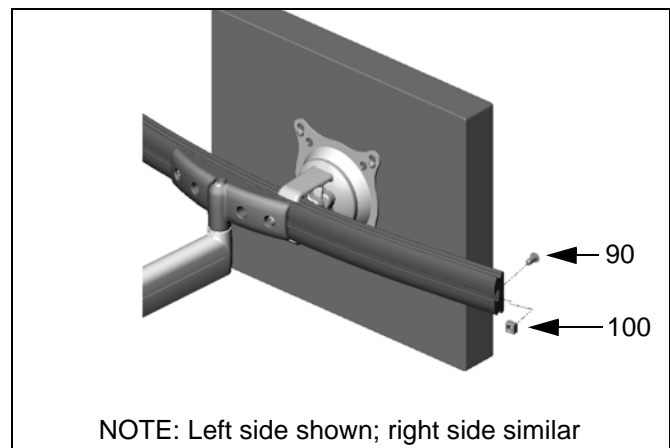

Figure 16: Install End Locks
7. Position the displays as desired and tighten the Centris head knob closest to the array (10). See "ADJUSTMENT" for additional information.
8. Using 5/32" hex key, install screw (90) and nut (100) on each end of the array (10) to prevent displays from accidentally sliding off (See Figure 16).